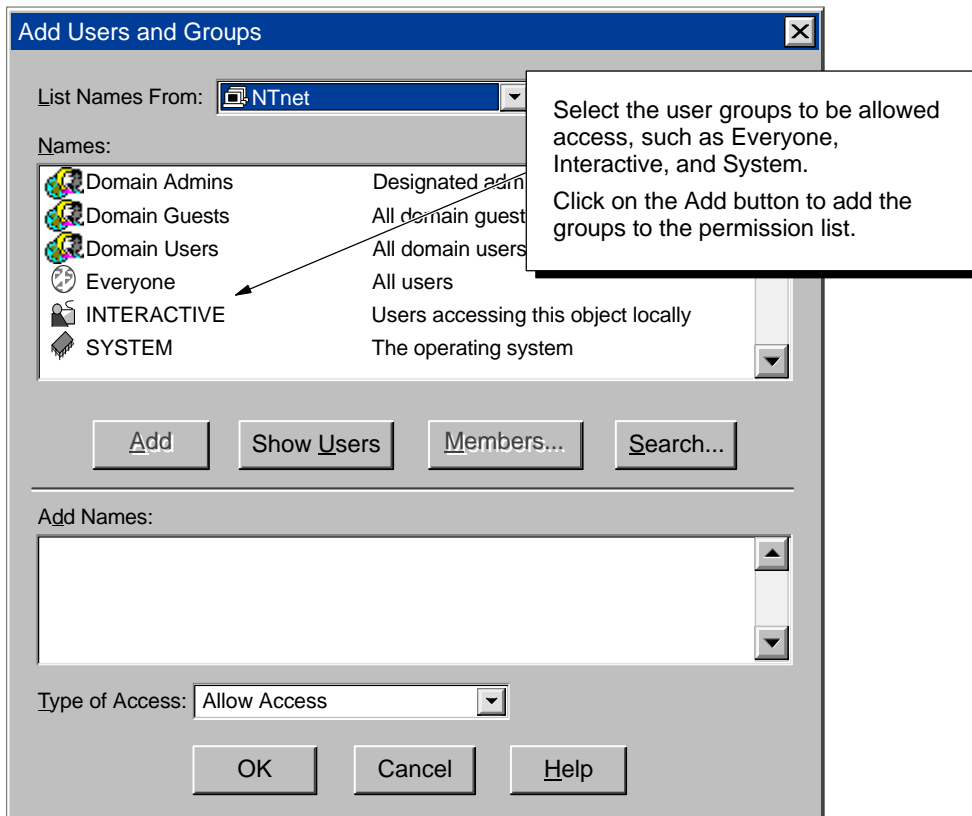

Figure D-7 Changing the Launch Permissions for Users or Groups
2. Click on the Add button to display the Add Users and Groups dialog box and change the security settings for access to the server. See Figure D-7.
3. In the “Names” field of the Add users and Groups dialog box (Figure D-7), select “Everyone” (or the appropriate subset of users) and click on the Add button.